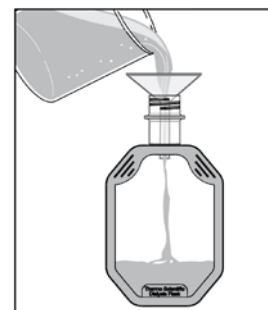

Figure 3. Pour in sample.
- Pour or pipette in a sample volume within the range indicated in the product description (i.e., 150-250mL) (Figure 3). If the sample has a density $\geq 1.1\text{g/mL}$ or is of high molar concentration such as protein in 2M NaCl, 2M $(\text{NH}_4)_2\text{SO}_4$, 20% glycerol, 20% sucrose or 8M guanidine, add only up to 150mL of sample to the device. This is essential to allow for the influx of water during dialysis and ensures the unit does not swell excessively. **Failure to do so may cause a membrane to dislodge from the device resulting in sample loss.**